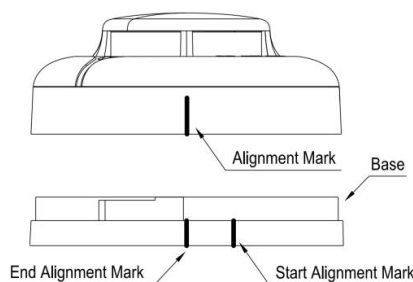

Figure 3
6.3.1 Clockwise direction rotate the alignment mark in the detector cover from the start alignment mark to the end alignment mark in the base. (Figure 3)